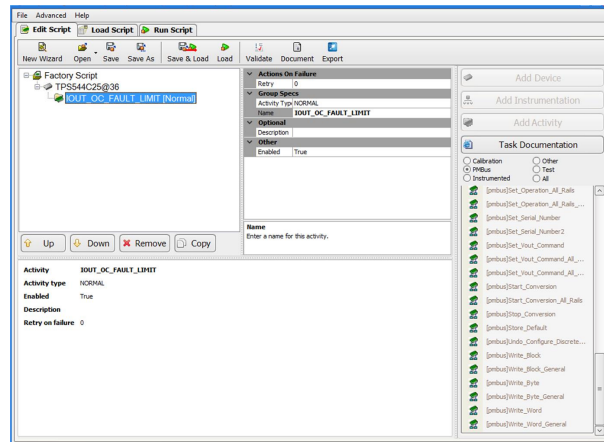

Figure 31. Adding An Activity
3. Click Add Activity and change the activity name to IOUT\_OC\_FAULT\_LIMIT. Select activity type Normal (shown in Figure 31).